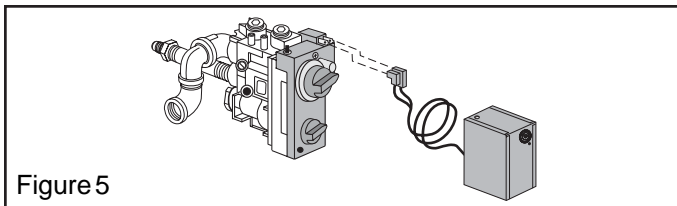

Figure 5
A. The APK-15M receiver has two female connector clips attached to the leads; one large and one small. Connect the female connector clips to the corresponding male connector clips (one large, one small) on the APK-15M valve. The male connector clips are located on the front upper right hand corner of the valve (Figure 5).